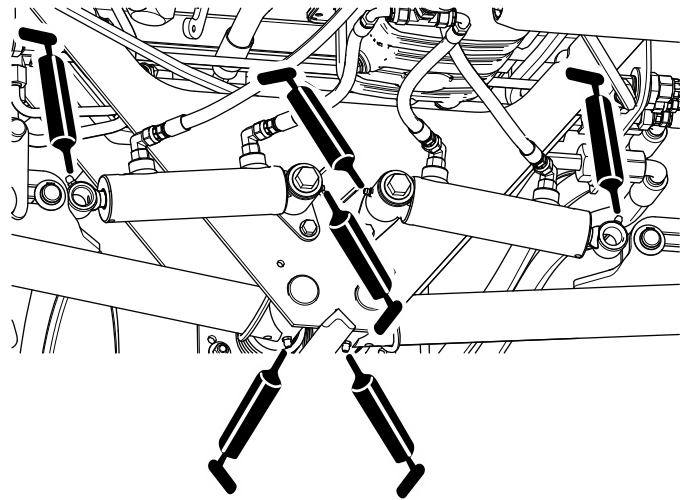

Figure 43
- Rear lift-arm pivots and lift cylinders (3 each side); refer to Figure 43.